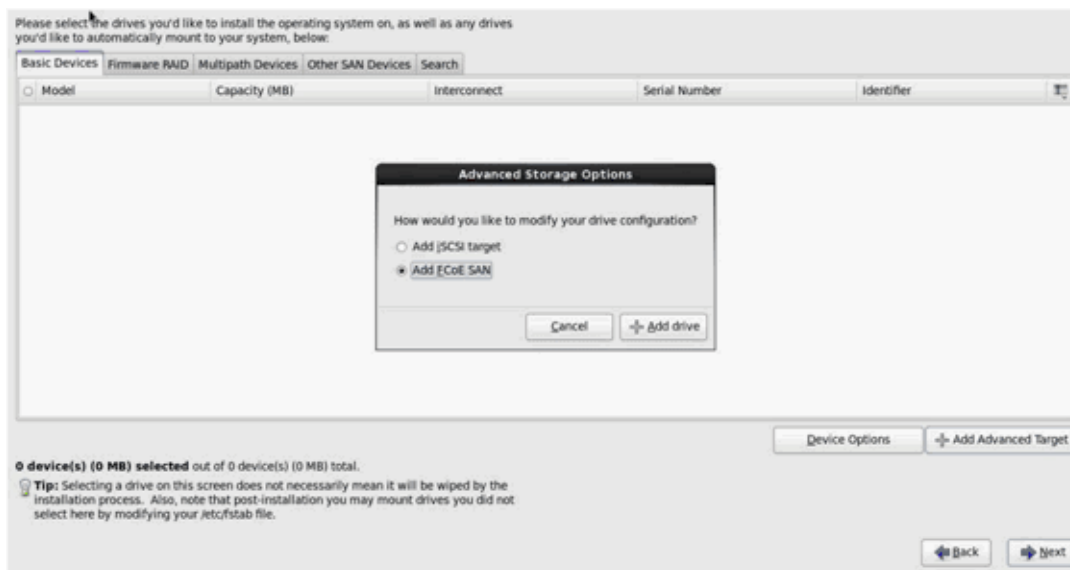

Figure 13-23. Adding FCoE SAN Drive
6. Select **Add FCoE SAN**, and then click **Add drive** (Figure 13-23).